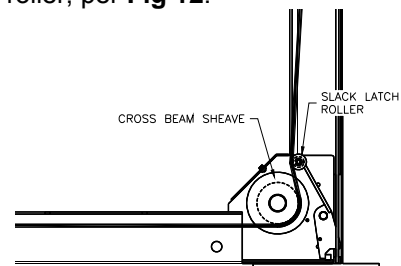

Fig 12 – Slack Cable Routing
- 18) Reinstall the cross beam sheaves with one plastic bearing washer and spacer on each side of each sheave. Make sure the cables are routed correctly around the slack cable latch roller, per **Fig 12**.